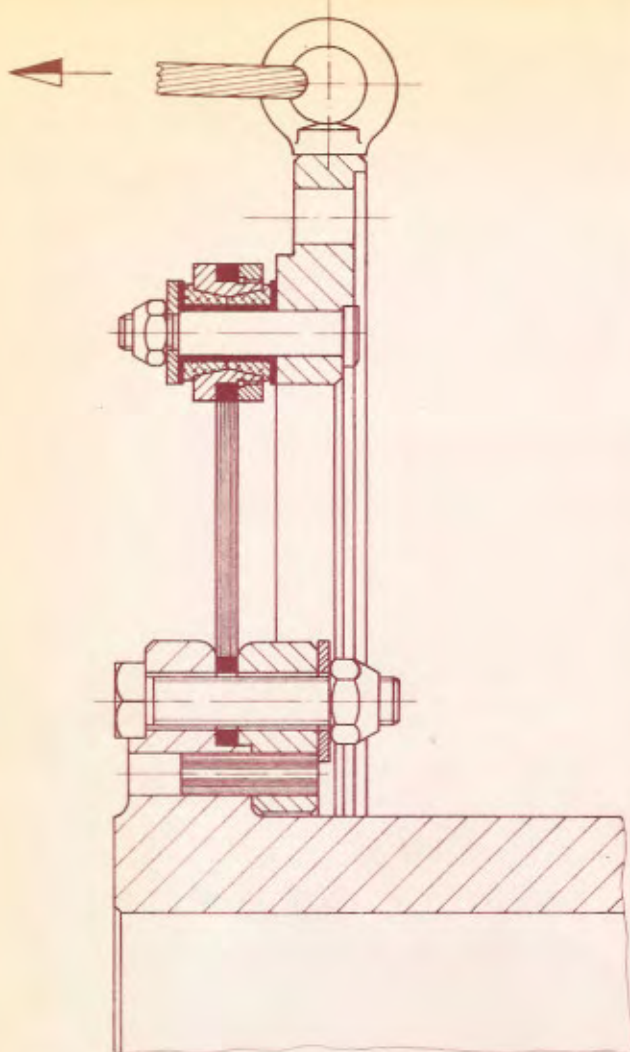

Figure 1
Now the RATO segments arranged at the membrane part must be installed. In order to do this, the membrane package must be deflected. For this purpose, 2 ring bolts must be screwed into the radial threaded bores in the tension ring (3), one beside the other. Then turn this side, until the two ring bolts are in a symmetrical position to the axis of the coupling, on the up side. After having connected an appropriate traction device to these ring bolts, the membrane package can be deflected as far as to permit 1 RATO segment (1) to be placed in this location. Attention must be paid that the segments on this side are installed displaced by 45 degrees to the segments already installed on the other side, to obtain a closed-ring formation (figs. 1 and 2).